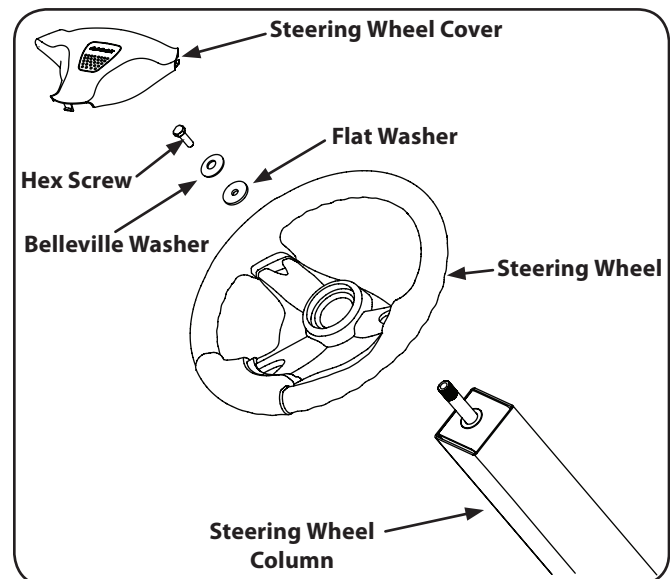

Figure 3-2
3. Place the flat washer and belleville washer over the steering wheel and secure with the hex screw. See Fig. 3-2.